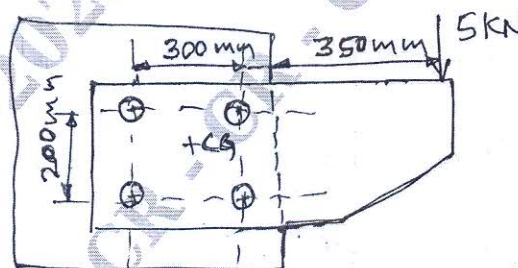

Fig.Q9(b)
- b. A bracket is bolted as shown in Fig.Q9(b). All the bolts are identical and have yield strength of 400MPa . Determine the size of bolts. Use $\text{FOS} = 3$.